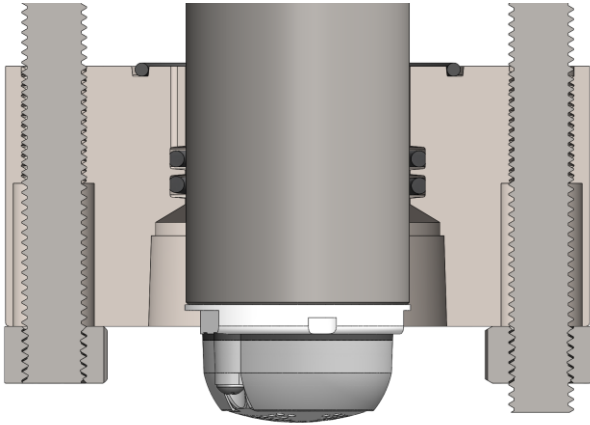

Figure 9. Cross-Section of Cap with sensor end pushed passed both internal O-rings.
4. The outlet port aligns with the sticker shown in Figure 9. Correctly orient ⑥ sensor by rotating the ② cap mater. **Review sections 2.2 and 2.3 for correct outlet port orientation.**